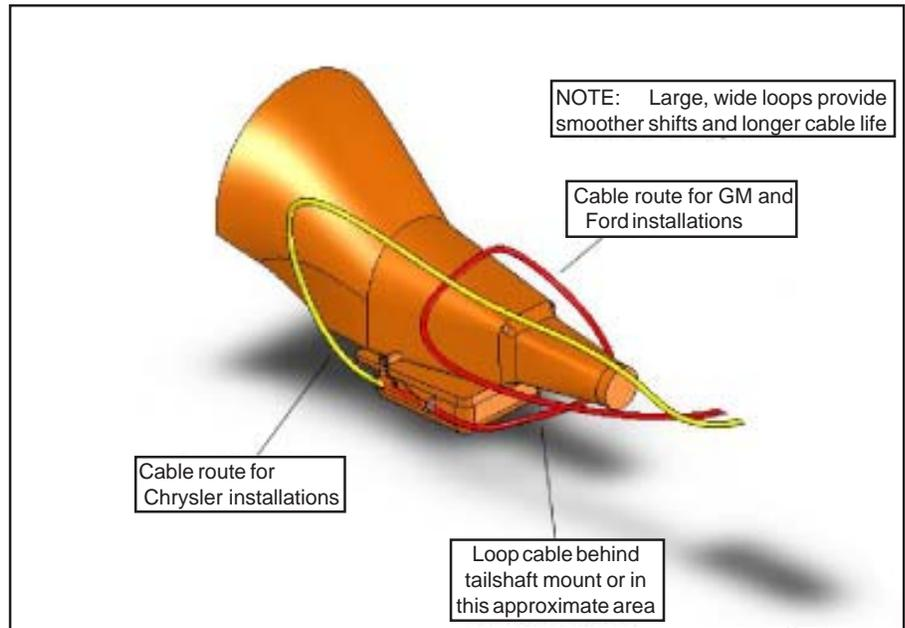

Figure 3
**STEP 7.** Install the shifter mechanism into the vehicle. Slide the shifter cable through the carpet and the hole in the floorboard. Bolt the shifter down using four 1/4" hex bolts and nuts. If required use 1/4" washers as shims between the shifter mechanism and the floor to level the shifter. Do not bend the shifter mounting tabs. **ROUTE THE CABLE AS SHOWN IN FIGURE 3, AVOID SHARP BENDS WHICH WILL KINK AND DAMAGE THE CABLE.** Use cable clamps or tie wraps to secure the cable housing to the chassis to avoid contact with hot engine or exhaust system. Seal the cable hole shut to avoid the entry of exhaust fumes or water. For General Motors vehicles go to **Step 8**, for Ford vehicles go to **Step 13**, for Chrysler vehicles go to **Step 19**, for aluminum Powerglide equipped vehicles go to **Step 25**.
**STEP 10.** Route the shifter cable according to **Figure 3**. Avoid kinks and sharp bends and route the cable away from hot engine or exhaust parts.
**STEP 16.** Route the shifter cable according to Figure 3. Avoid kinks and sharp bends and route the cable away from hot engine or exhaust parts.
**STEP 21.** Route the shifter cable according to **Figure 3**. Avoid kinks and sharp bends and route the cable away from hot engine or exhaust parts.
**STEP 34.** Route the shifter cable according to Figure 3. Avoid kinks and sharp bends and route the cable away from hot engine or exhaust parts.